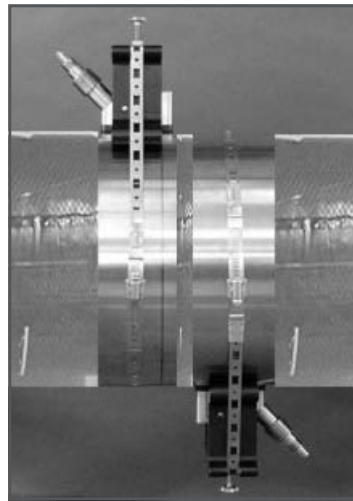

Figure 37: Completed DMP-1 Installation
6. Wrap each of these strips around the pipe on the outside edge of the clamping fixture, one upstream and one downstream. The completed installation should appear similar to *Figure 37*.